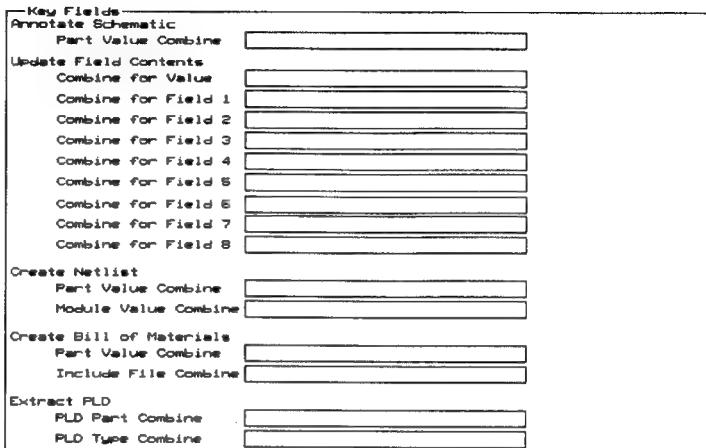

Figure 7-5. Key Fields area of the Configure Schematic Design Tools screen.
2. Scroll to the **Key Fields** area of the **Configure Schematic Design Tools** screen (figure 7-5).